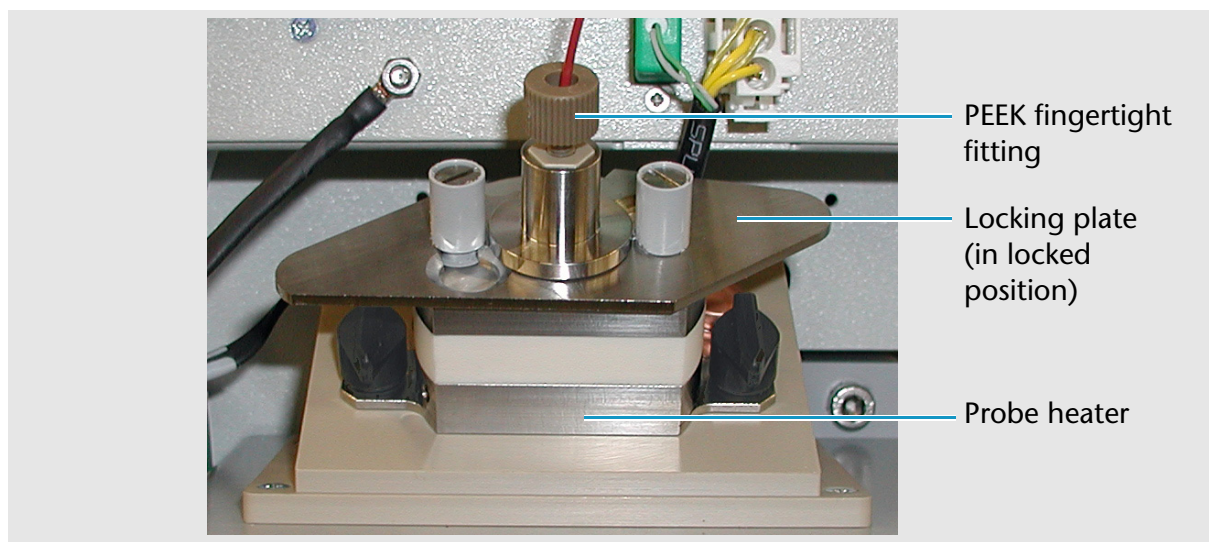

Fig. 33 ESI probe installed in the probe heater
4. Unscrew and remove the PEEK fingertight fitting, shown in Figure 33, from the ESI probe.
3. Turn the locking plate counterclockwise to the closed position to lock the probe in place. See Figure 33.
4. Connect the PEEK fingertight fitting to the ESI probe. See Figure 33.